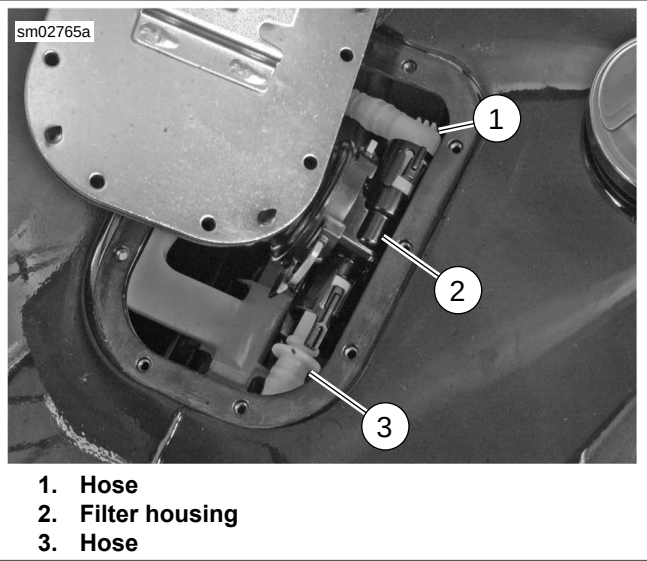
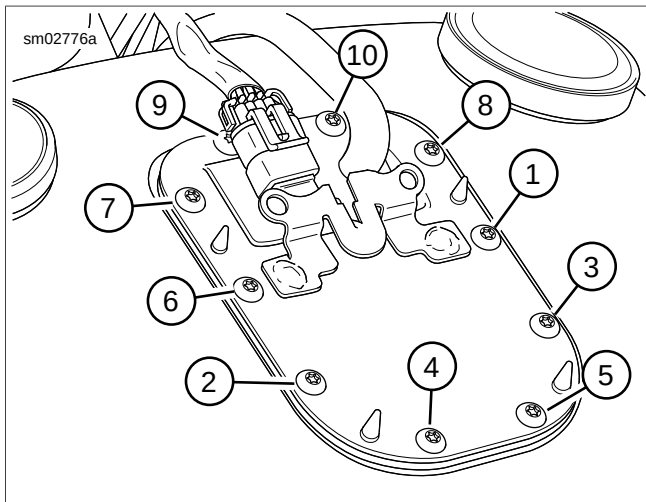

Figure 4-34. Fuel Pump Hoses
Figure 4-48. Top Plate Torque Sequence
6. See Figure 4-34. Pull top plate out of fuel tank enough to expose fuel hoses (1, 3).
7. Disconnect hoses (1, 3) from filter housing (2).
5. See Figure 4-34. Install **new** O-rings on hoses (1,3).
6. Attach hoses (1, 3) to filter housing (2).
8. See Figure 4-48. Install **new** screws and tighten using the pattern shown, to 18-24 **in-lbs** (2.0-2.7 Nm).